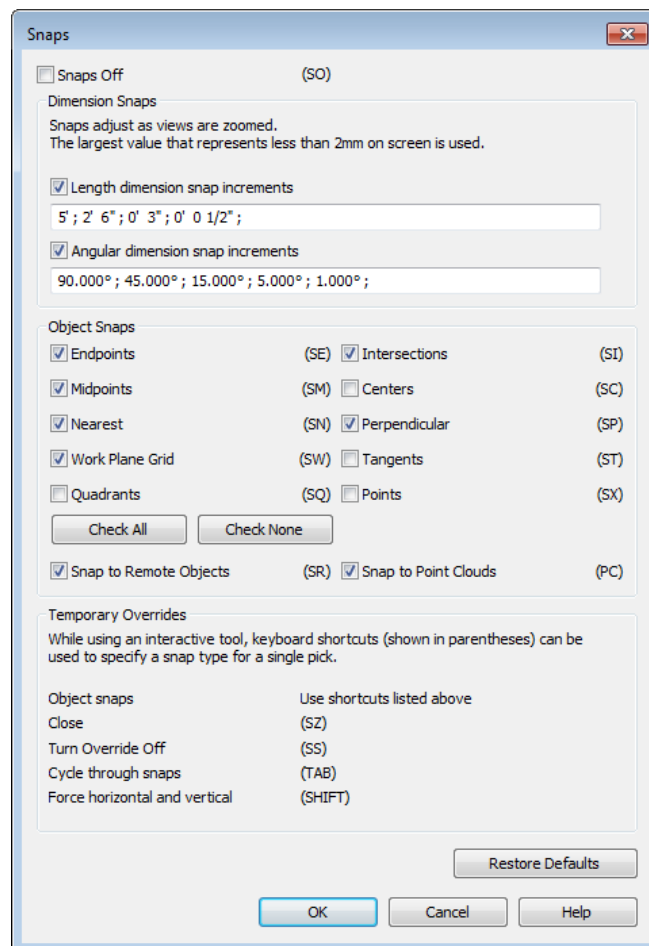

Figure 2-29 The *Snaps* dialog box
Figure 2-29 shows the value entered for length snaps increment.
4. In the **Object Snaps** area, clear the **Quadrants**, **Centers**, **Tangents**, and **Points** check boxes to disable them. Leave the other options such as **Endpoint**, **Midpoint**, **Nearest**, **Perpendicular**, **Work Plane Grid**, **Snap to Remote Objects**, **Snap to Point Cloud**, and **Intersections** enabled, refer to Figure 2-29. Choose the **OK** button to apply settings and exit the **Snap** dialog box.